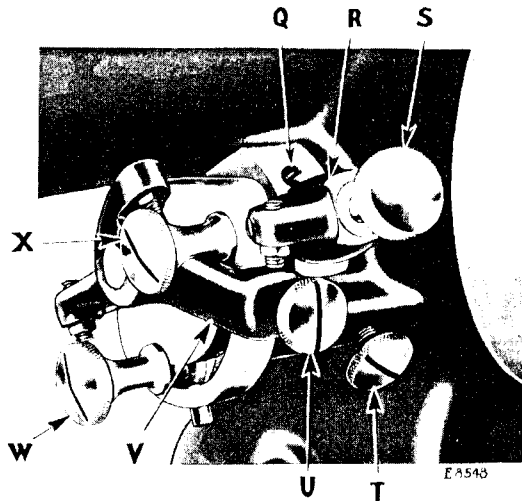

Fig. 17. Machine Adjusted for Flat Stitch Embroidery with Needle Vibrating Equally on Each Side of a Center Line
By shifting the hand lever (R, Fig. 17), the zero position of the needle can be moved forward $\frac{3}{32}$ inch and the stitching can then be varied any width up to $\frac{3}{16}$ inch to the rear of the zero position (see Fig. 16).
When desired, the needle vibrating mechanism can be locked to produce any width of stitching within the capacity of the machine, by tightening the thumb screw (U, Fig. 17).
The two stop screws (W and X, Fig. 17) are provided for limiting the extent of the vibrations of the needle when it is desired to produce varying widths of stitches within predetermined limits (up to $\frac{3}{16}$ inch).
Each form of seam is governed by the lever (R, Fig. 17) at the right of the machine. To move this lever, loosen the set screw (T, Fig. 17), pull out the lever plunger (S, Fig. 17) and move the lever (R) up or down, as desired, allowing the plunger (S) to enter the hole in the arm, then tighten the set screw (T).
When the plunger (S) is in the upper hole (Q, Fig. 17) in the arm, the zero position of the needle is moved forward $\frac{5}{32}$ inch from the center line and the width of the stitching can then be increased or decreased from a straight line at the front edge of the seam (see Fig. 16).
Loosen the set screw (T, Fig. 17) and place the lever plunger (S, Fig. 17) in the lower hole (Y, Fig. 18) in the arm of the machine and press the knee lever until the needle vibrates to the desired width of seam, then tighten the large thumb screw (U, Fig. 17) in the lever (V, Fig. 17).
The two stop screws (W and X, Fig. 17) are provided for limiting the extent of the vibrations of the needle when it is desired to produce varying widths of stitches within predetermined limits less than $\frac{3}{16}$ inch wide. For example: If the extreme width of the seam is not to exceed $\frac{1}{16}$ inch, adjust the lower stop screw (W) as follows: Press the knee lever until the needle vibrates up to $\frac{1}{16}$ inch, hold the knee lever in this position and loosen the stop screw (W) and move it until it comes into contact with the lever (V, Fig. 17), then tighten the stop screw (W), and release the knee lever.
Always tighten the set screw (T, Fig. 17) after moving the plunger (S, Fig. 17) in the lever (R, Fig. 17).
Loosen the set screw (T, Fig. 17) pull out the lever plunger (S, Fig. 17) and move the lever (R, Fig. 17) upwardly, allowing the plunger (S) to enter the upper hole (Q, Fig. 17) in the arm of the machine, then tighten the set screw (T).